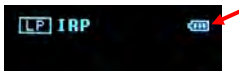

Figure 2.6-1. Battery Level Indicator
- Step 2.)** Rotate the Mode Selection Knob to select the desired operational mode. The display illuminates and an icon in the upper right-hand corner shows the current battery level (see Figure 2.6-1). If the display does not illuminate when activated, ensure that the display is not set to a dim setting, and that a fresh battery has been installed in the correct orientation, and that the battery compartment cover is securely fastened.